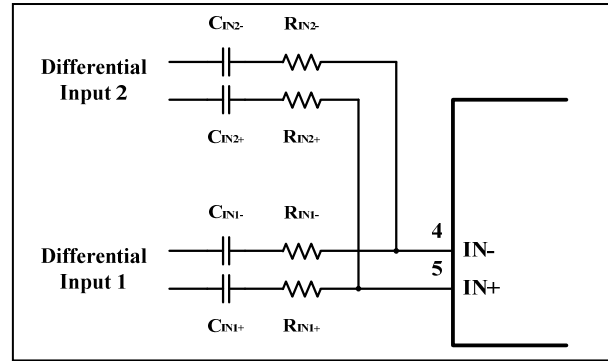

Figure 14 Application Circuit with Summing Two Differential Inputs
Two extra resistors are needed for summing differential signals. The gain for each input source can be set independently (see equations (4) and (5), and Figure 14).